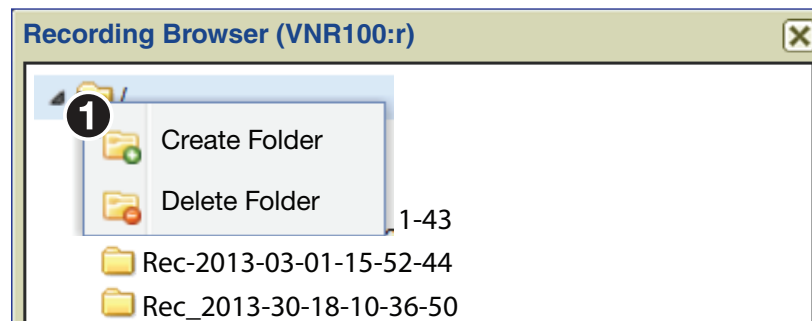

Figure 83. Recording Browser Window, Create Folder
4. Select the root folder, <right-click> on the folder (see figure 83, ①), then click **Create Folder**.